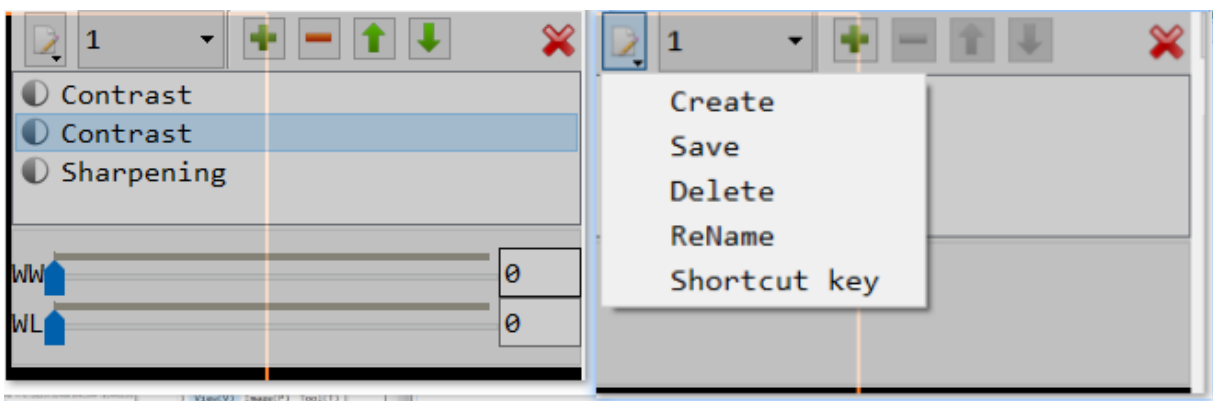
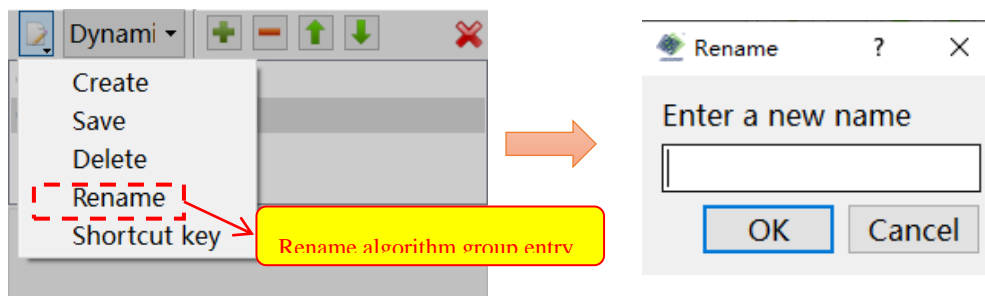

Fig. V-9 Operator Combination Management (L) and Management Menu (R)
Fig. V-10 Shortcut Key Dialog Box
Operator combination management includes create, save, delete, rename, shortcut key and other functions. See function entry in Fig. V-9:
- ① Click the operator combination management entry (left in Fig. V-9), and choose pop-up menu "Create" (right in Fig. V-9).
- ② Enter the name of new operator combination in pop-up dialog box.
- ③ Click "Confirm" to finish creating a new named empty operator combination.
Click the management operator combination entry (left in Fig. V-9), and click "Save" in pop-up drop-down menu (right in Fig. V-9). The save operation is to save the currently chosen operator combination for loading/creation into the configuration file.
Click the management operator combination entry (left in Fig. V-9), and click "Delete" (right in Fig V-9) in pop-up drop-down menu to delete the operator combination currently chosen for loading and displaying. "- Dynamic -" and "- Static -" combinations cannot be deleted.
Click the management operator combination entry (left in Fig. V-9), and click "Rename" (right in Fig. V-9) in the pop-up drop-down menu to rename the operator combination
Click the management operator combination entry, click the "Shortcut Key"(right in Fig. V-9) in the pop-up drop-down menu to set shortcut for the existing algorithm group. The shortcut key setting process is as follows:
- ① Click the management operator combination entry (left in Fig. V-9), click the "shortcut key" in the pop-up drop-down menu to open dialog box for shortcut key setting (Fig. V-10).
- ② Choose the image processing algorithm group to set shortcut key from the algorithm group drop-down list on the left;
③ Choose the shortcut key you want to set from the shortcut key drop-down list on the right;
④ Click the "Save" button to save the settings.